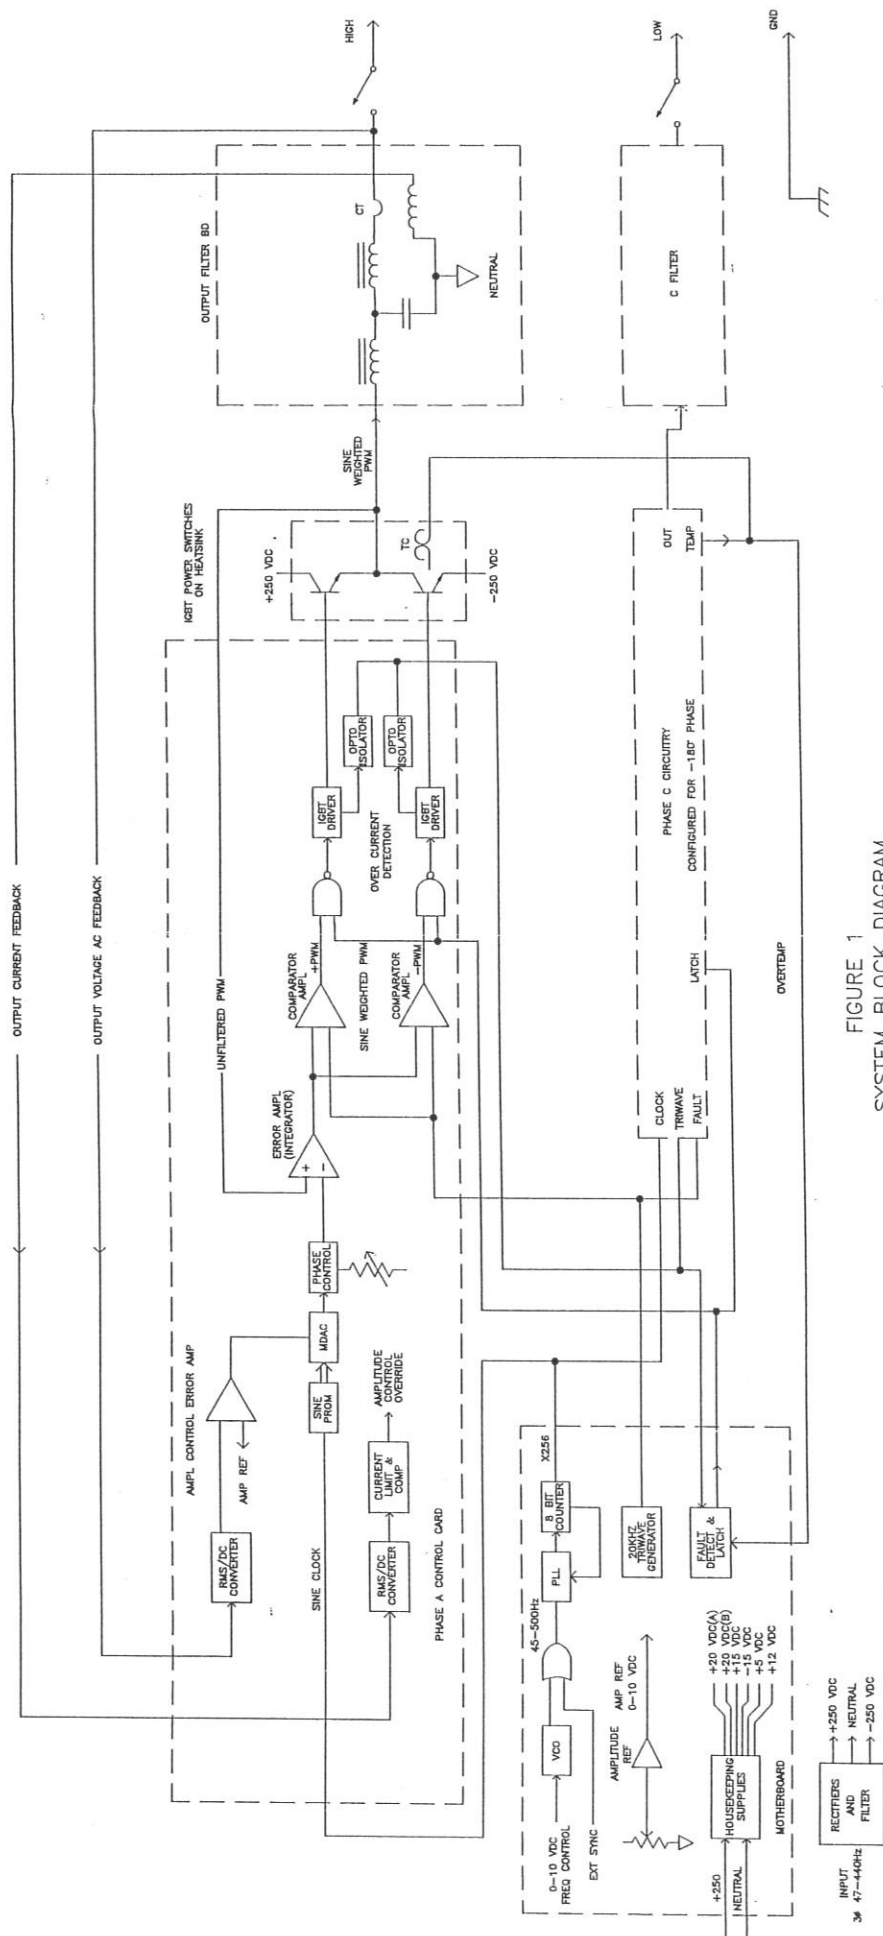

FIGURE 1
5.3.1 The control chassis contains the main power invertors and bias and also the control circuitry. The diagram of Figure 1 depicts the basic functional blocks. Note that in the case of three phase units, only one phase is illustrated as the others are identical. The circuitry is configured so that each of the three "Phase control Cards" plug in to a "Motherboard". The output devices and output filter components are mounted on separate assemblies.